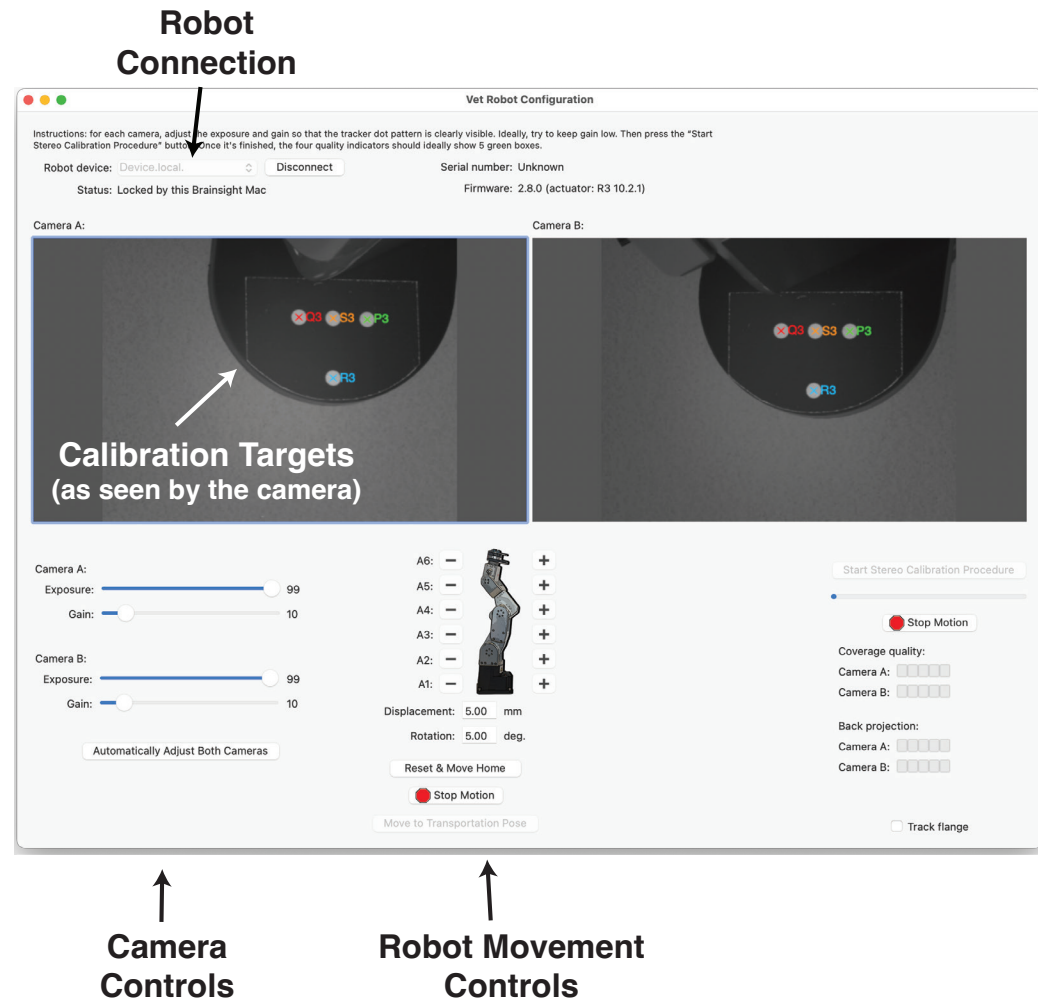

Fig. 3-16
3. Select **Window->Vet Robot Configuration**. A window will open (see Fig. 3-16).